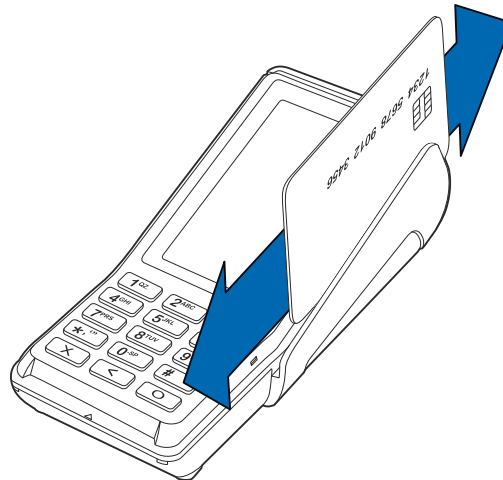

Figure 22 Using the Magnetic Card Reader
Figure 22 shows a V400c example, but the same process works for V200c terminals.
- 2 To ensure a proper read of the magnetic stripe, swipe the card smoothly through the reader in one direction (either towards the top of the screen or the bottom of the keyboard), as shown in Figure 22.